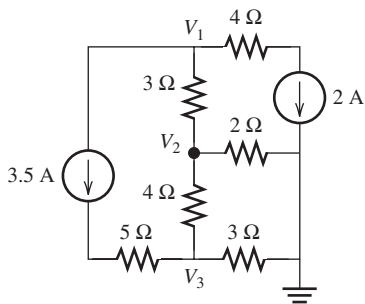

FIGURE P3.38 Circuit for Problem 3.38.
3.38 (A)* Find V_1 , V_2 , and V_3 in Figure P3.38: